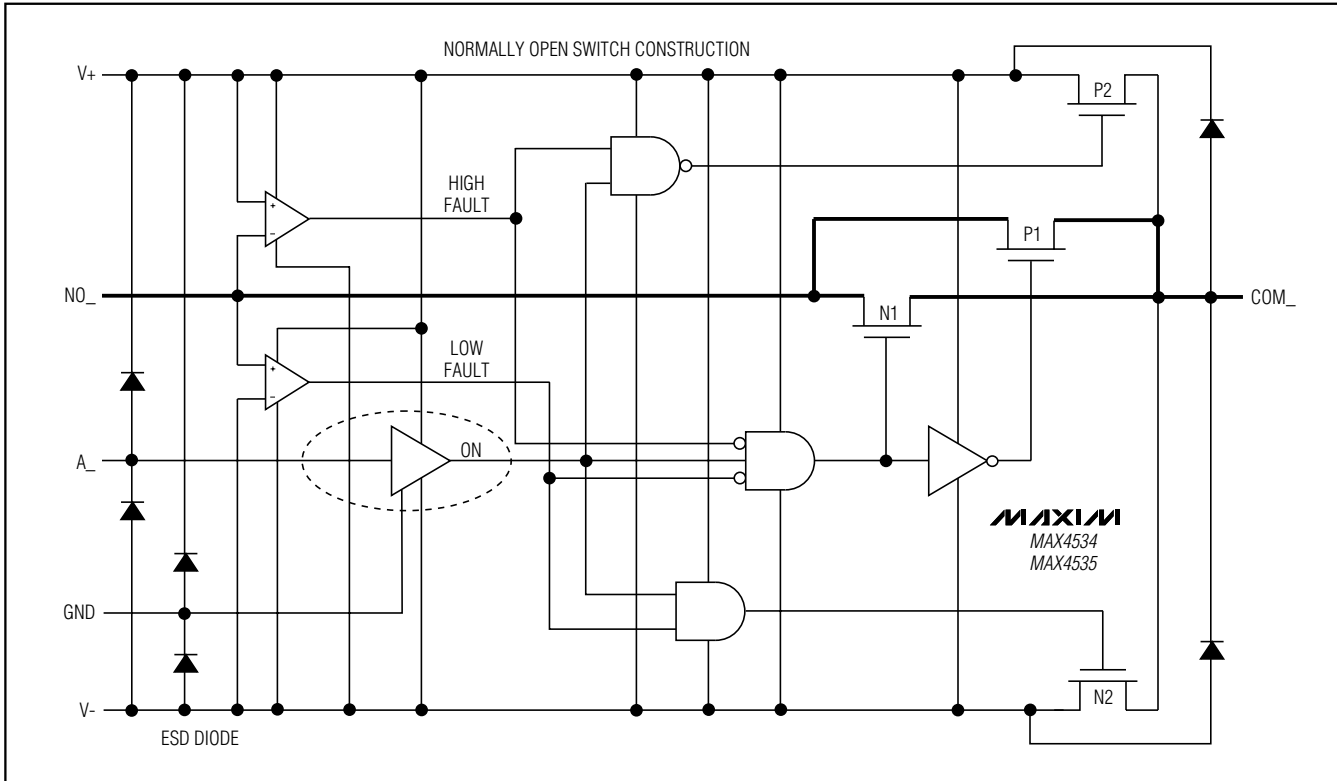

Figure 1. Functional Diagram
Figure 1 shows the internal construction, with the analog signal paths shown in bold. A single, normally open (NO) switch is shown. The analog switch is formed by the parallel combination of N-channel FET N1 and P-channel FET P1, which are driven on and off simultaneously, according to the input fault condition and the logic level state.
off in response to A₋ signals (Figure 1). The parallel combination of N1 and P1 forms a low-value resistor between NO₋ and COM₋ so that signals pass equally well in either direction.
When the signal on NO₋ exceeds V₊ by about 150mV, the positive fault comparator output goes high, turning off FETs N1 and P1 (Figure 1). This makes the NO₋ pin high impedance regardless of the switch state. If the switch state is "off," all FETs turn off, and both NO₋ and COM₋ are high impedance. If the switch state is "on," FET P2 turns on, clamping COM₋ to V₊.
When the signal on NO₋ goes about 150mV below V₋, the negative fault comparator output goes high, turning off FETs N1 and P1 (Figure 1). This makes the NO₋ pin high impedance regardless of the switch state. If the switch state is "off," all FETs turn off, and both NO₋ and COM₋ are high impedance. If the switch state is "on," FET N2 turns on, clamping COM₋ to V₋.
FETs N2 and P2 can source about ±10mA from V₊ or V₋ to the COM₋ pin in the fault condition (Figure 1). Ensure that if the COM₋ pin is connected to a low-impedance load, the 30mA absolute maximum current rating is never exceeded, both in normal and fault conditions.